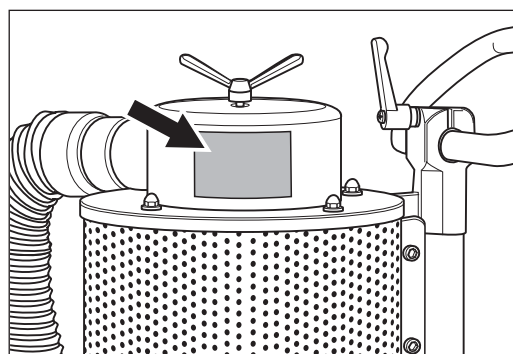

Fig. 43 Note the warning on the dust separator!
- **Note the warning on the dust separator (fig. 43)!**